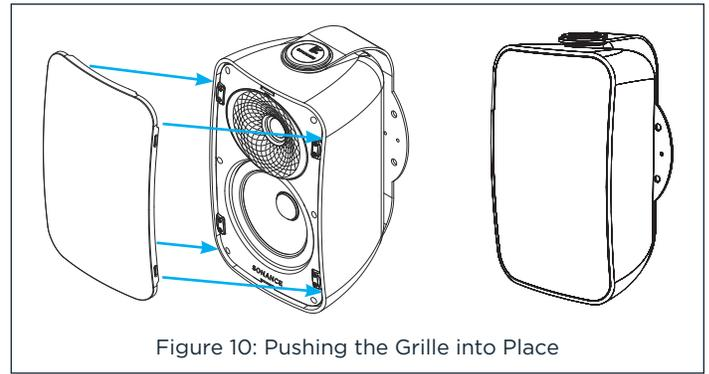

Figure 10: Pushing the Grille into Place
8. Fit the grille onto the speaker by aligning the edges of the grille with the groove of the speaker face perimeter and pressing firmly until it is snugly in place (see Figure 10).